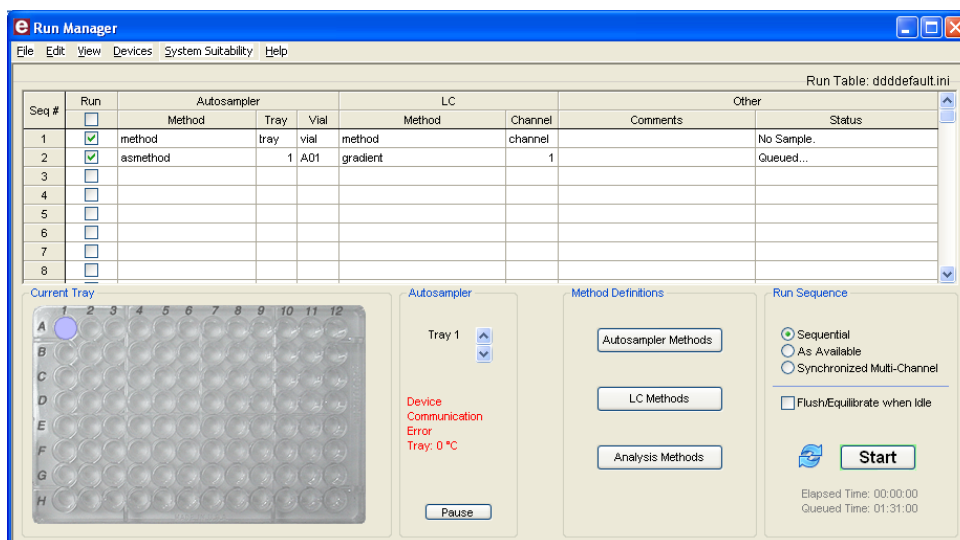

Figure 3-9 Run Manager Window
9. Click **Run Manager** in the Acquisition window to display the Run Manager window (Figure 3-9).